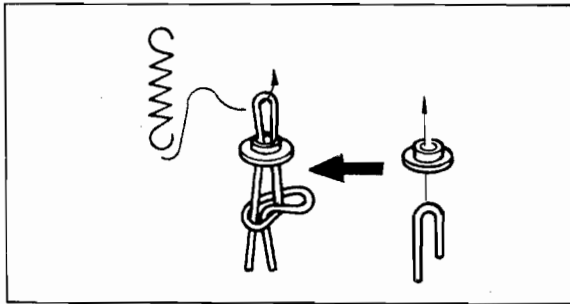

Fig. 2-5. Details of dial cord finish
**Note:** At the finish point, pass the doubled end of the cord through the eyelet (see Fig. 2-5) and tighten the cord and squeeze the eyelet so that the spring is under tension. Make two knots in the cord end to keep it from slipping out of the eyelet as shown in Fig. 2-5.